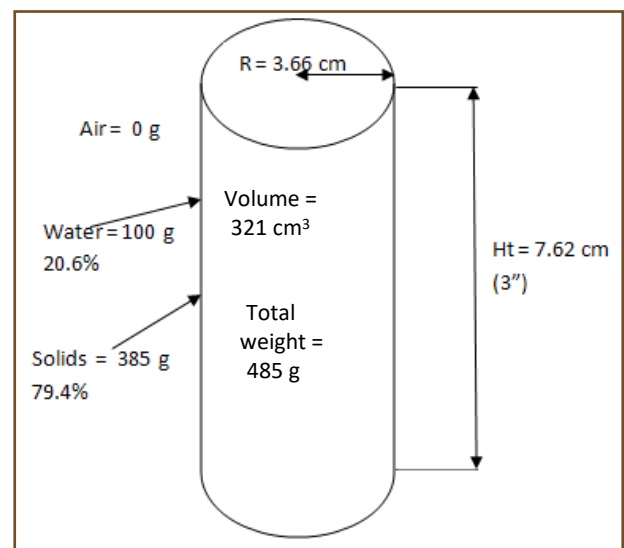

Figure 11.—Example soil core dimensions, volume, and weight, by component.
\*Soil bulk density = [(a - b) ÷ (1 + h)] ÷ volume of soil core (volume of soil core = 321 cm3 for 3-inch core, 2 inches from top of soil to top of ring; refer to volume calculations on following page and to figure 11).
**Volume of soil core (cm3) (see figure 11):**  $\pi r^2 \times \text{height}$